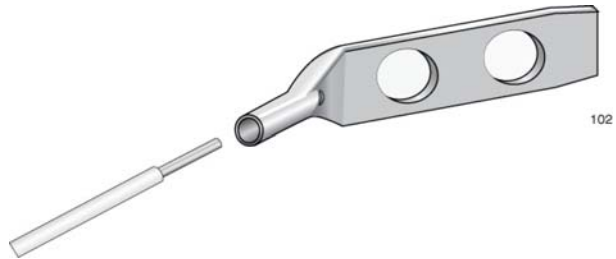

Figure 52. Attaching the Grounding Wire to the Grounding Lug
3. Insert one end of the grounding wire into the grounding lug, as shown in Figure 52, and use a crimping tool to secure the wire to the grounding lug.